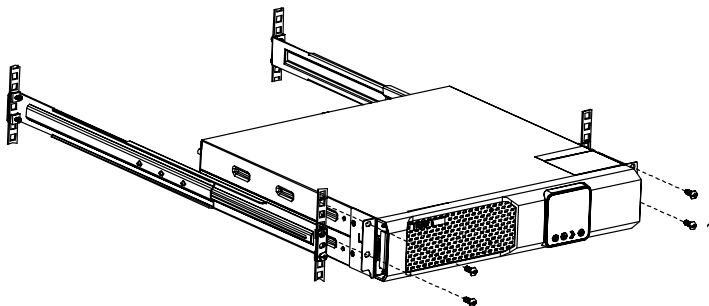

Fig. 21: Preparatory measures for battery replacement
1. Remove the four M6x16 pan-head screws, see Figure 21.